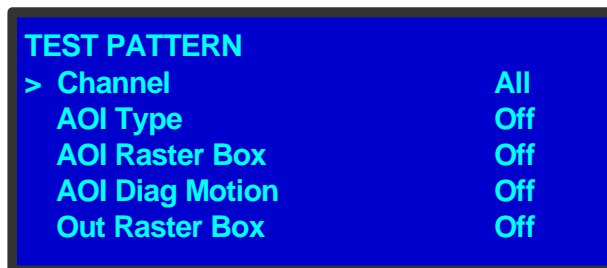

Figure 4-51. Test Pattern Menu in Dual-Channel Mode
1. Press the **TEST PAT** button. The **Test Pattern Menu** appears, as shown in Figure 4-51 on page 70. In dual-channel mode, this menu includes a field for selecting the channel you want to work with.